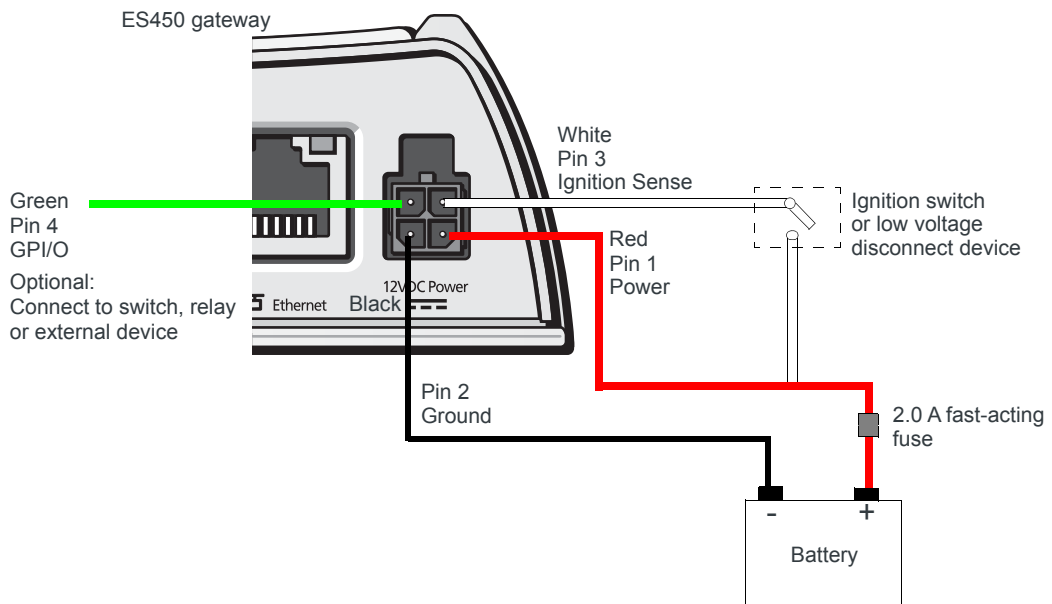

Figure 3-3: DC power cable connections (Colors indicate DC cable wire colors.)
*Note: To turn the gateway off when the voltage drops below a defined level, connect Pin 3 to an external low voltage disconnect. See Figure 3-3 on page 31.*
See Figure 3-3 and Table 3-2.
For DC installations, Sierra Wireless recommends fusing the power input using a 2.0 A fast-acting fuse. Install the fuse on the positive line, as shown in Figure 3-3 on page 31.